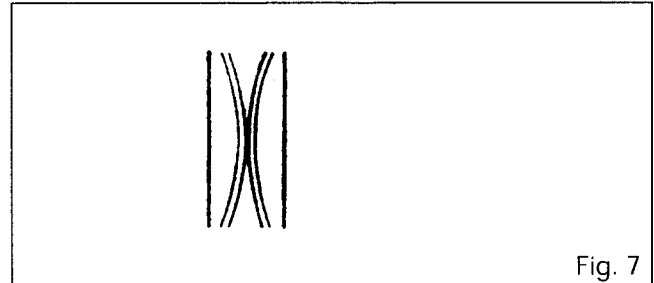
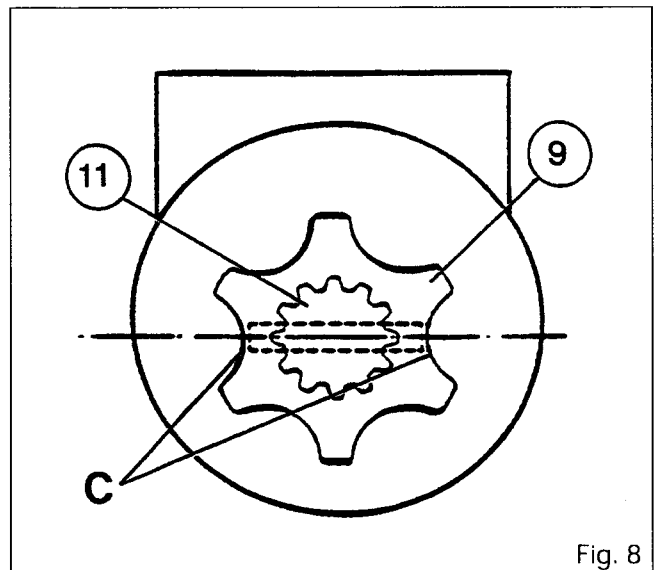
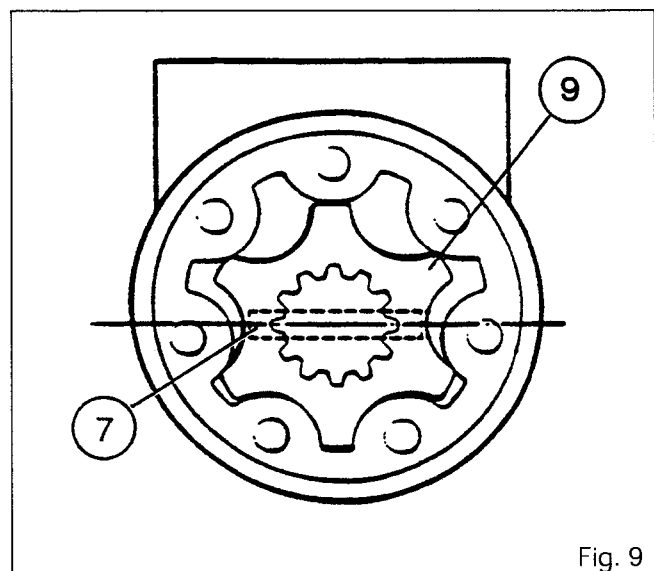

Fig. 7
Fig. 8
Fig. 9
16. Refit the check valve (26).
17. Fit seal (19), O-ring (17) and bush (15).
18. Place the balls and springs in the recesses for the shock valves (20). Screw in the threaded bushes, position the seals and tighten the caps.
19. Place the valve and spring in the recess for the relief valve (18) and screw in the threaded bush. Position the seal and tighten the cap to a torque of 40 to 60 Nm.
20. Insert the spool valve (25) in the sleeve (27). Position the centring springs (13) as shown in Figure 7 and fit the pin (7).
21. Position the ring (24) on the sleeve and spool valve assembly so that the chamfer facilitates assembly in the distribution valve.
22. Fit washers (12) and (16) with the chamfer on washer (12) directed towards the centring springs (13) and with the needle-roller bearing (14) positioned between them.
23. Fit the sleeve and spool valve assembly in the distribution valve, applying a slight oscillating movement. Check that the pin (7) is held horizontally.
24. Place the two balls and the two pins in the recesses for the suction valves (23).
25. Place the ball in the recess for the non-return valve (22) and screw in the threaded bush.
26. Position the splined link shaft (11).
27. Fit O-ring (28) and the distributor plate (29).
28. Fit the rotor (9) so that the two hollows "C" are in line with the slot in the splined shaft (11) (Fig. 8). Refit the spacer (10).
29. Place O-rings (5) and (8) on the stator (6).
30. Taking care not to move the rotor (9), fit the stator (6). Then move the stator so that its attachment holes coincide with those of the distribution valve.
- Note : The rotor (9) and pin (7) must be in the position shown in Figure 9.**
31. Refit the cover plate (4).
32. Refit bolt (2) (in the position marked during disassembly) and bolts (1) fitted with their seals (3). Tighten them alternately to a torque of 30 to 35 Nm.